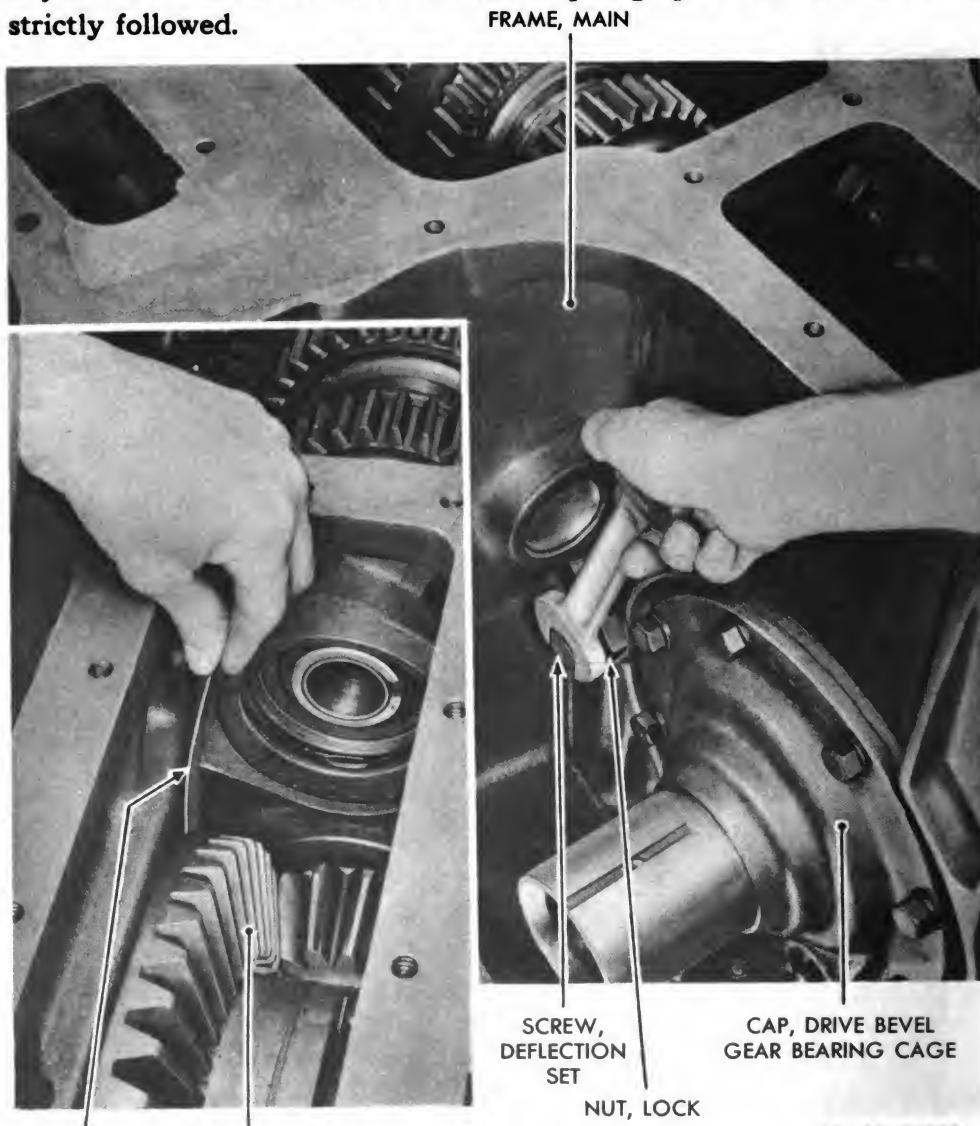

Figure 70 – Drive Bevel Gear Deflection Screw Adjustment
(5) ADJUST BEVEL GEAR DEFLECTION SCREW (fig. 70).